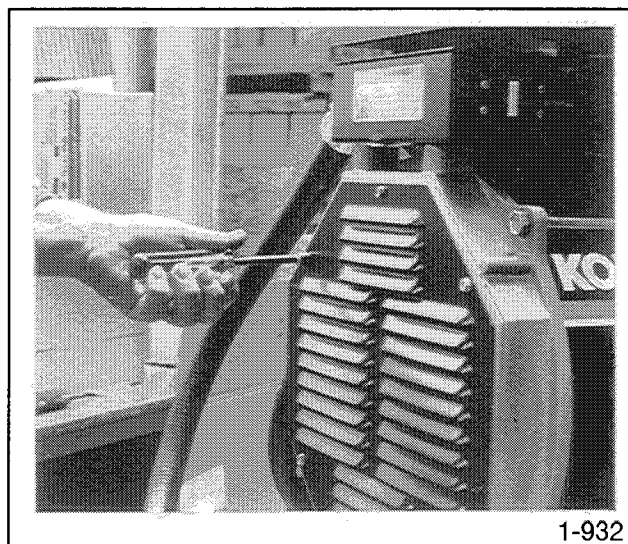

Figure 8-5. End Bracket Removal
13. Remove the six screws securing the end bracket panel to the unit using a 5/16-inch nut driver. Remove the panel to expose the end bracket assembly. See Figure 8-5.